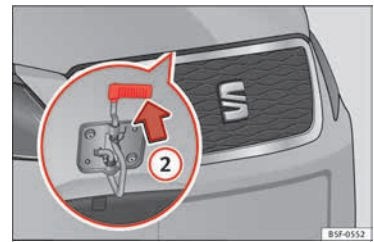

Fig. 9 Cam under the bonnet
- Lift up the bonnet. Press the release catch under the bonnet upwards » **Fig. 9 ②**. The arrester hook under the bonnet is released. »